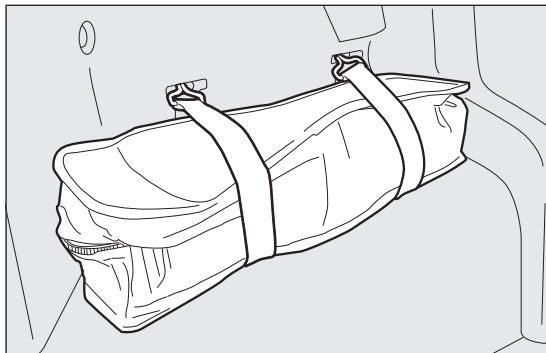

fig. 115
- ☐ open the tailgate, take the tool bag fig. 115 located on the left of the boot by releasing the elastic straps and take to the wheel to be replaced;